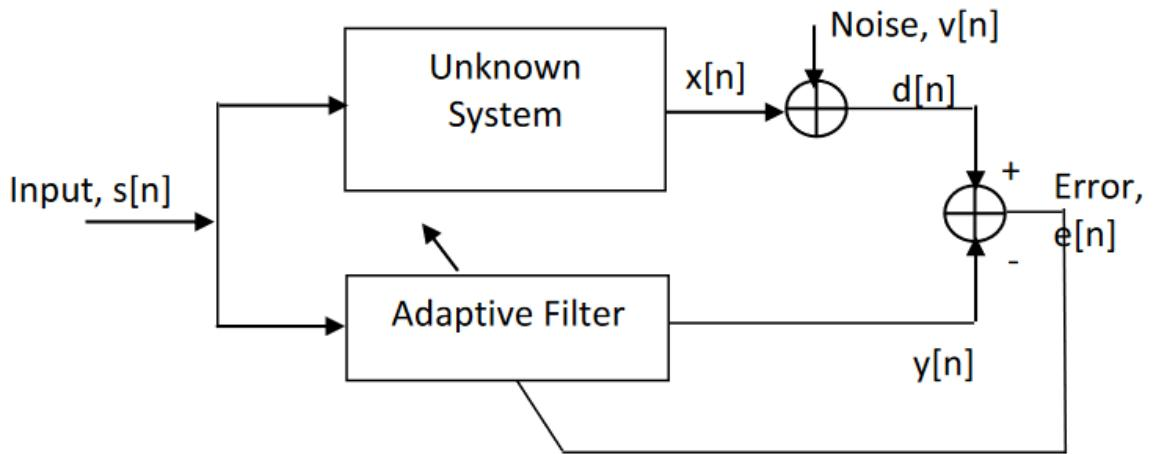
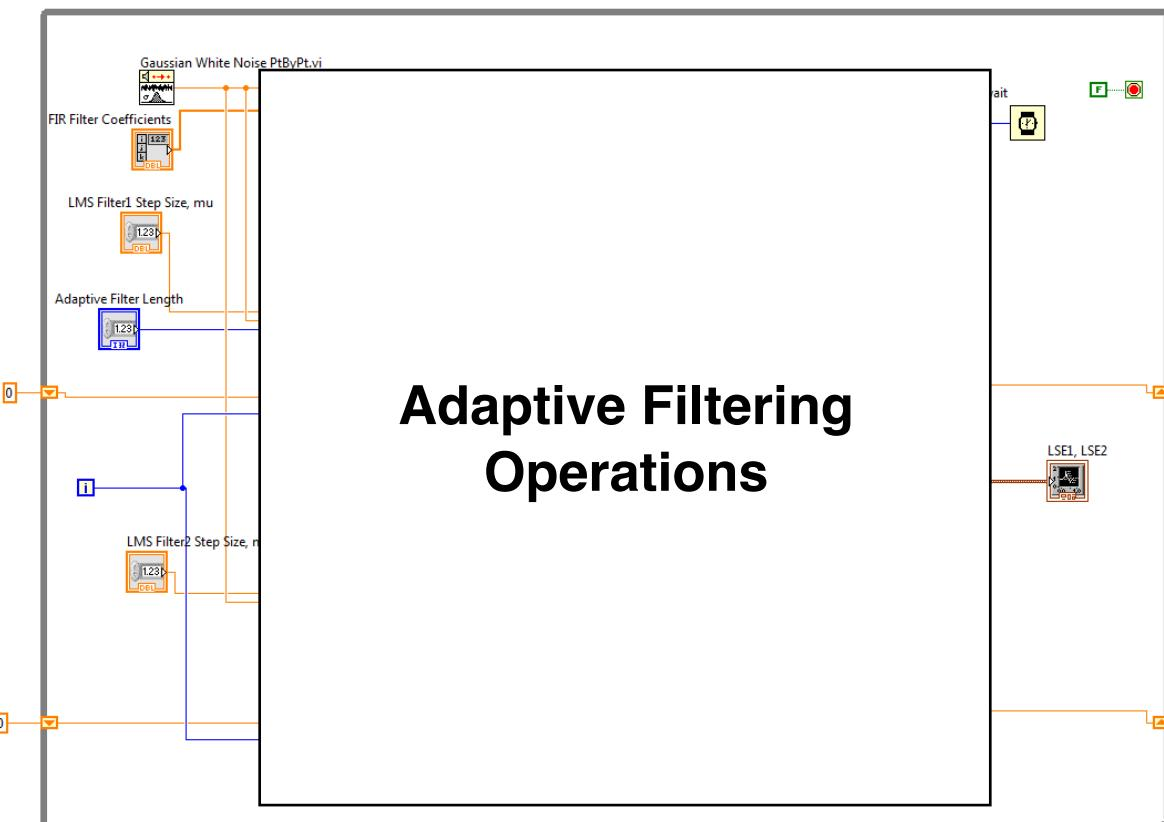

Fig. 3. System identification with an adaptive filter.
Fig. 4. The system identification structure in LabVIEW.
- c) Create a new VI named as **system_identification.vi**. Generate a random input signal, filter it through a filter whose filter coefficients are adjusted from the front panel. Then build the adaptive filter structure as shown in Fig. 3 for obtaining the filter coefficients by the help of the adaptive filter. Note that filter output is corrupted by white noise and the result is the $d[n]$ signal. A part of the LabVIEW structure is given in Fig. 4.
In this part, noise cancellation will be implemented. You may implement noise cancellation by following your MATLAB Codes, Part 1 and Part 2 experiment manuals and Fig. 4.